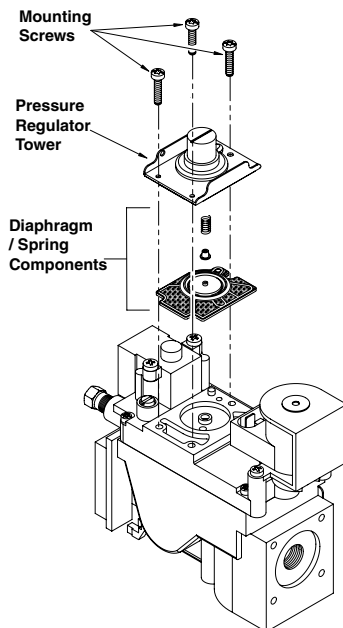

Figure 7 - Removing Mounting Screws, Regulator Tower, and Diaphragm/Spring Components
1. Using a Torx T20 or slotted screwdriver, remove and discard the three mounting screws, pressure regulator tower, and diaphragm/spring components (see **Figure 7**).